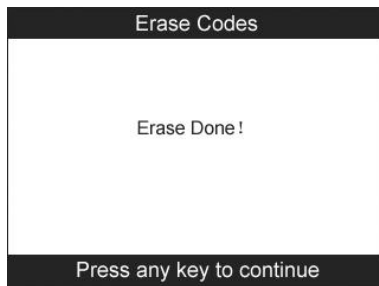

Figure 5.7
- If the codes are cleared successfully, an “**Erase Done!**” confirmation message shows on the display (Figure 5.7).